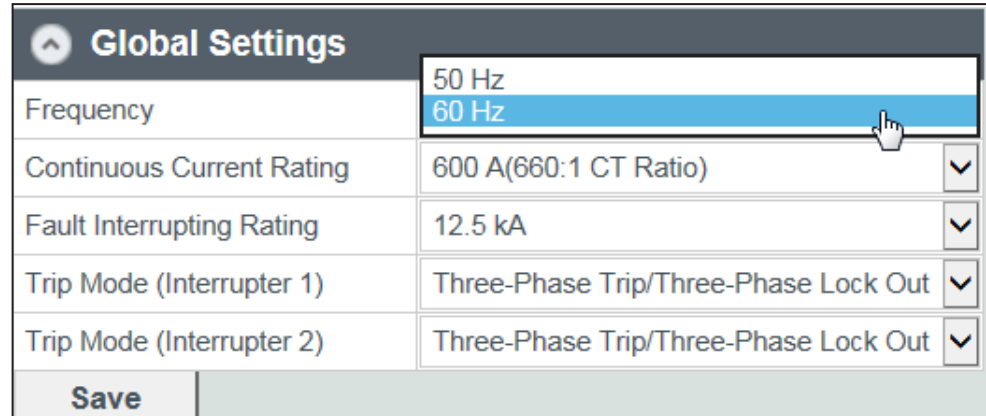

Figure 17. Select the nominal frequency from the Global Settings menu.
STEP 1. From the **Global Settings** menu, select the frequency setting to match the system operating frequency. See Figure 17.